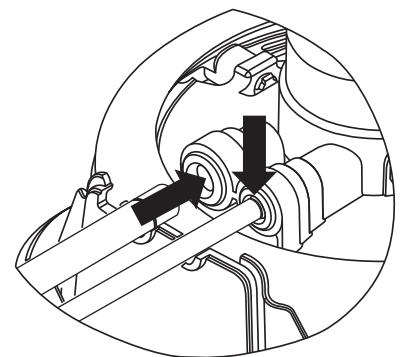

Fig. 5
- b. **Insert** the end of the BLUE tube attached to the $\frac{3}{8}'' \times \frac{1}{4}'' \times \frac{5}{16}''$ Large T Connector, h, (Fig. 1) into the small port on the Bracket (Fig. 5), until it meets the line or the line disappears.